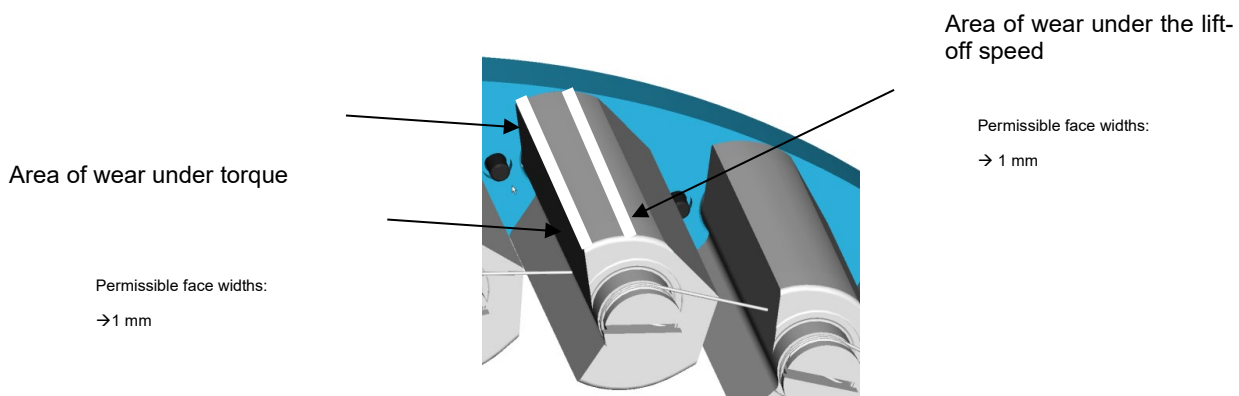

Fig. 13: Wear zones
- Preclean the inner race (1), outer race (1) and cage (8) with a petroleum-based industrial cleaning agent and degrease with an acetone-based cleaning agent.
- maximum width of the wear facet on the sprag (see fig. 13)